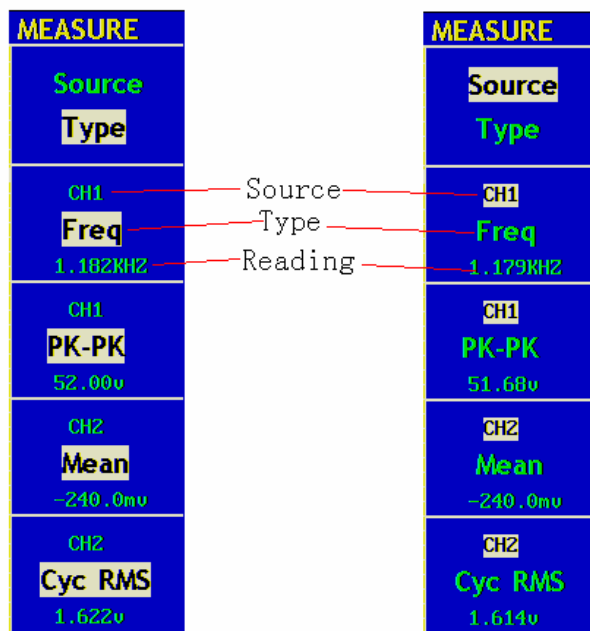

Fig.5-43 Measure Menu
Press the **F1** menu selection button to choose **Source** or **Type** menu. You can choose the channel to be measured from the **Source** menu and choose the measurement **Type** (Freq, Period, Mean, PK-PK, and Cyc RMS). The menu is displayed as **Fig.5-43**.
4. Adjust the positions of **CURSOR1** and **CURSOR2** according to the measured waveform, with the period and frequency of Cursor1 and Cursor 2 displayed in the increment window. The current position of Cursor1 is displayed in the Cursor1 window and that of Cursor2 is displayed in the Cursor2 window (see **Fig.5-43**).